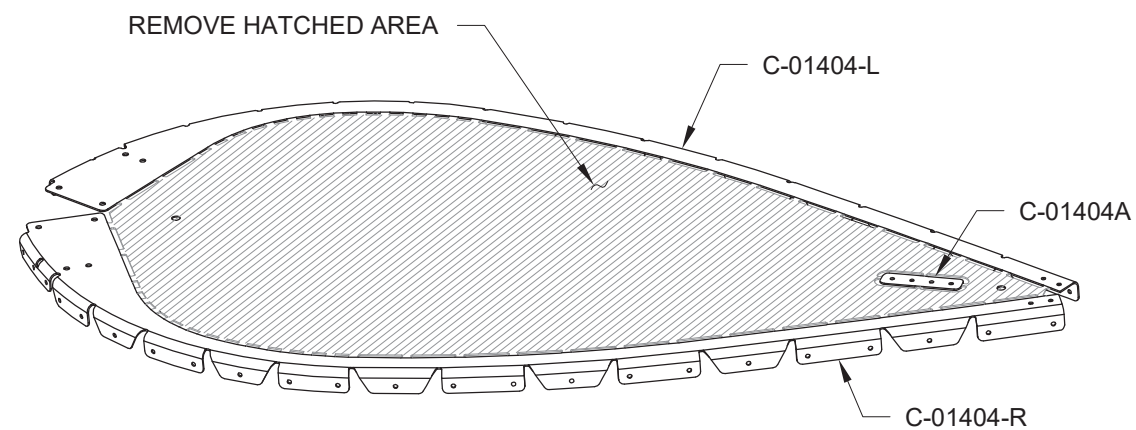

FIGURE 2: SEPARATE SUPPORT FLANGES AND SUPPORT FLANGE SPLICE
Step 2: Separate the C-01404-L & -R Support Flanges and C-01404A Support Flange Splice as shown in Figure 2.